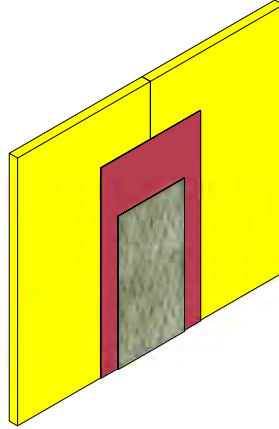

Figure 19
2. Remove the backing from the WS FLASH. Using a roller firmly press the WS FLASH over the joint ensuring it is well and evenly adhered. The joint is now ready to receive the final coat of ACROSTOP-R. (See Figure 19)